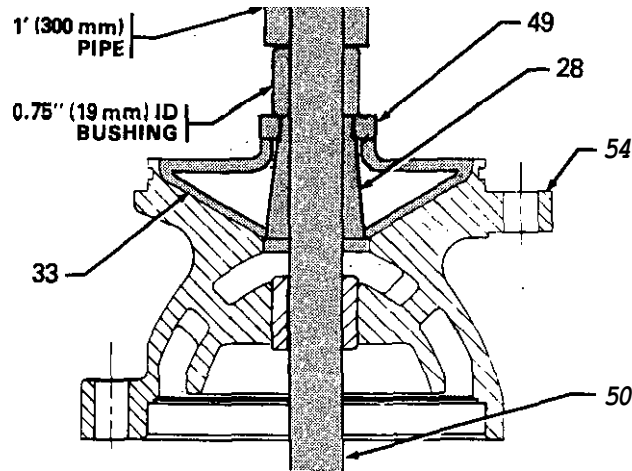

Fig 11
- b. Place a soft steel protecting bushing (0.75 in/19 mm) ID with a smooth turned end, on top of the hex nut. Use a sharp downward blow with a 1 foot (300 mm) length of pipe or tube over the shaft to loosen the collet (28). See Fig 11.
- c. Remove the collet and impeller (33). Do not pry on the impeller.
- e. Remove the shaft holddown tool (85).
6. Inspect the shaft for signs of scoring or wear and replace it, if needed. Check all bowls and impellers for wear or damage and replace as needed. Install new O-rings (13) on all impeller bowls and the intake bowl, then lubricate the O-rings in place. Be sure the impeller nuts (49) rotate freely on the collets.